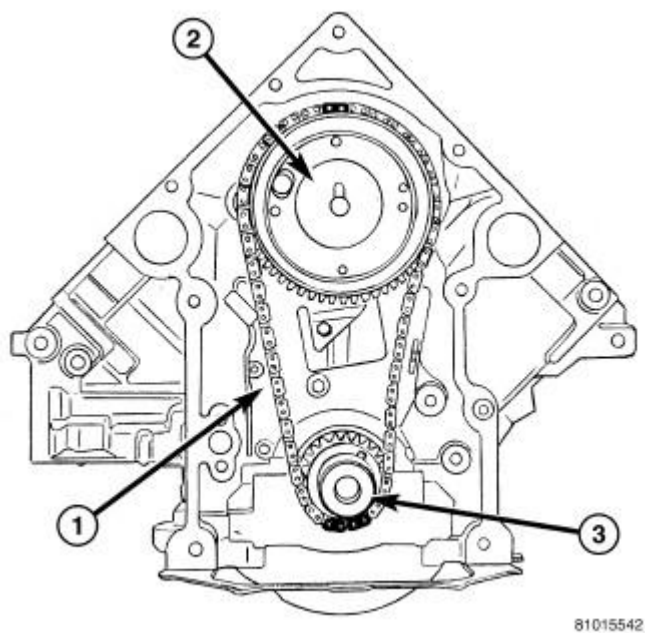

Fig. 253: TIMING MARK ALIGNMENT
5. Install the vibration damper bolt finger tight. Using a suitable socket and breaker bar, rotate the crankshaft to align the timing chain plated links with the timing marks on the sprockets as shown in **Fig. 253**.